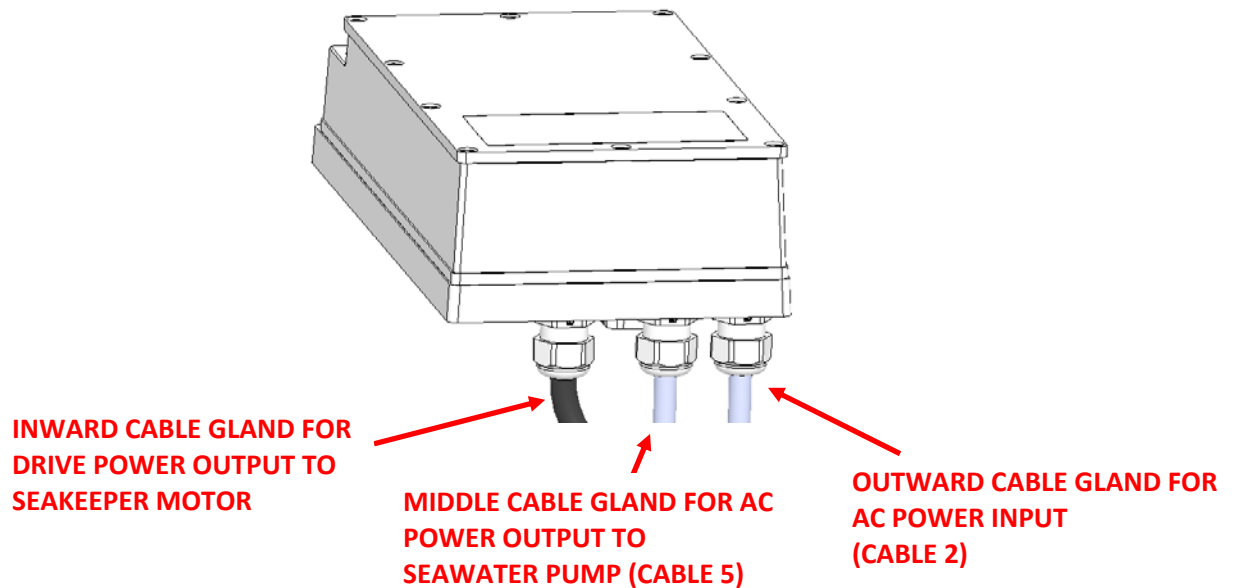

FIGURE 2 – DRIVE BOX AC POWER INPUT & OUTPUT CABLE GLANDS
- a. Locate CABLE 5 for AC power output to the Seawater Pump from the Drive Box at the middle of three cable glands. (See Figure 2.)
- i. Locate CABLE 5 for AC power output to the Seawater Pump from the Drive Box at the middle of three cable glands as shown in Figure 2.